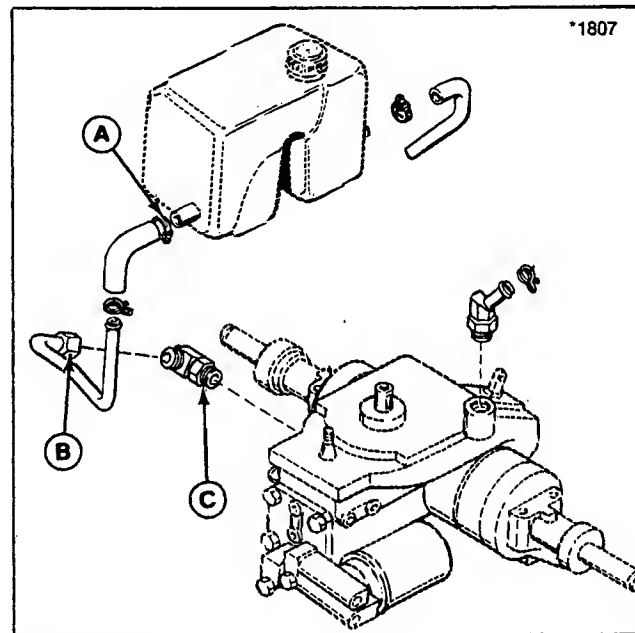

Figure 17B.
2. To drain front reservoir pocket and inlet tube (A, figure 17B), loosen fitting (B) that secures 90° elbow (C). Support elbow with a 15/16" open end wrench while turning fitting with a 1" wrench.